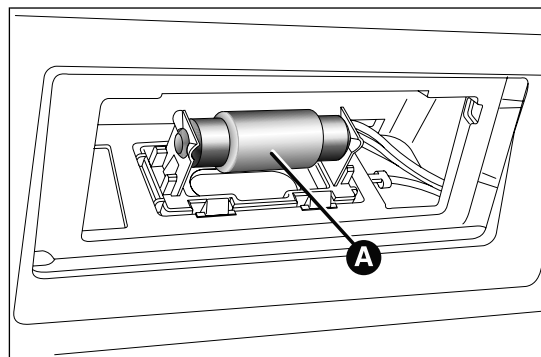

fig. 133
- ☐ replace the bulb B fig. 133 releasing it from the side contacts;